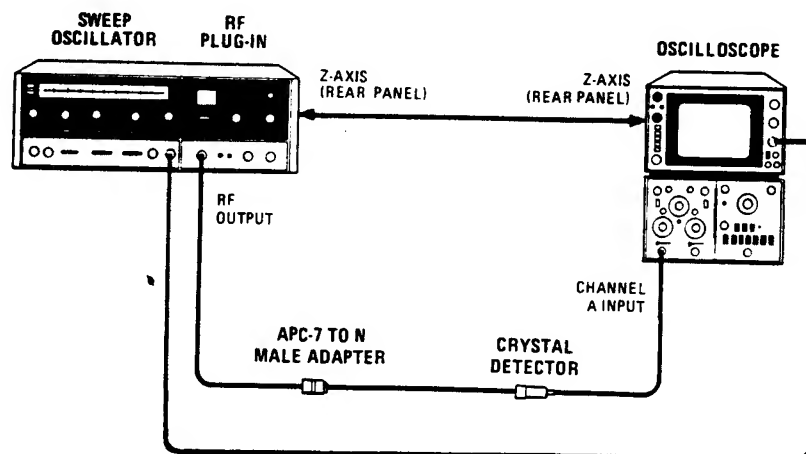

Figure 4-6. Display Blanking and RF Blanking Test Setup
- b. Connect equipment as shown in Figure 4-6.